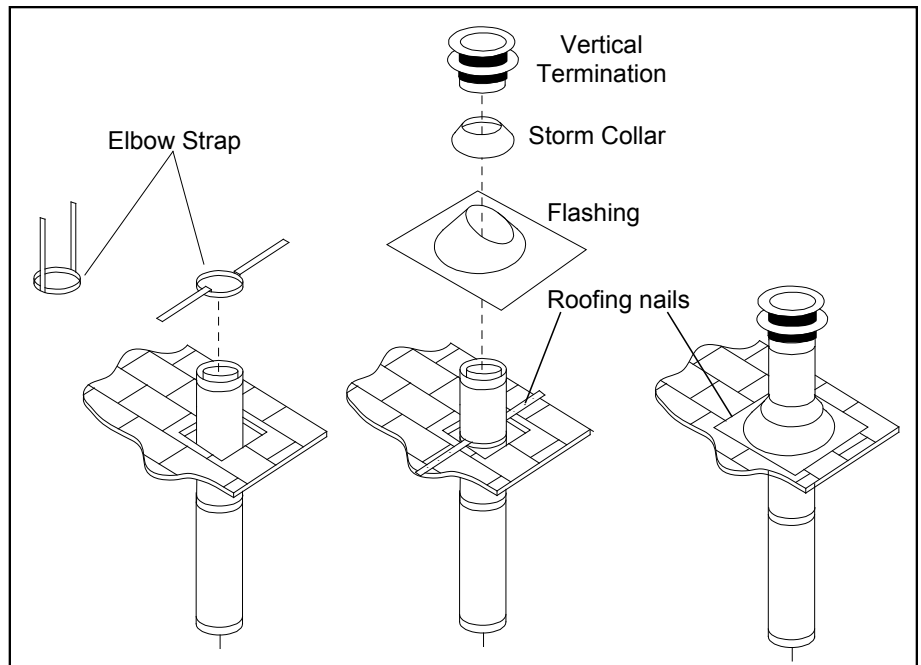

Figure 37: Vertical Vent Termination Installation.
7. Slip the flashing over the pipe section protruding through the roof. Secure the base of the flashing to the roof with roofing nails. Use a non-hardening sealant between the uphill edge of the flashing and the roof. Insure the roofing material overlaps the top edge of the flashing as shown in Figure 37. Verify that you have at least the minimum clearance to combustibles at the roof line.
9. Slip the storm collar over the pipe, and push it down to the top of the roof flashing as shown in Figure 37. Use the non-hardening sealant around the joint between the pipe and the storm collar.